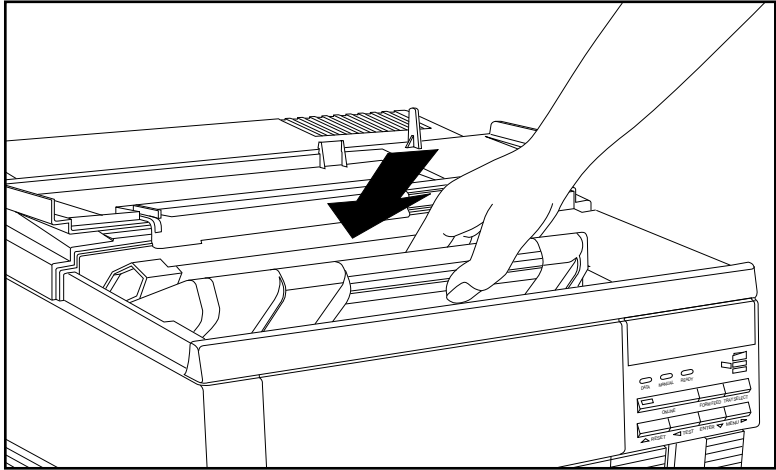

Fig. 10.10 Load the Toner Cartridge
2. Align and slide the toner cartridge back into the printer until it rests securely in place (fig. 10.10). If the cartridge is not seated correctly, the top cover will not close completely.